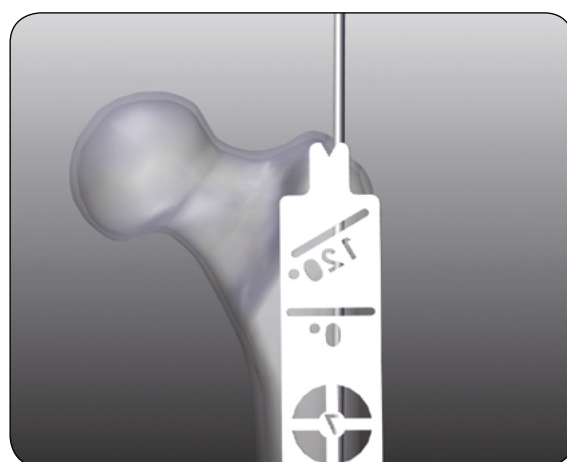

Fig. 9 Proximal screw positioning
PRECAUTION: Depending on the position of the nail and bone anatomy, it is recommended to direct the tip of the proximal locking screw towards the lesser trochanter, avoiding as much as possible damaging the physis (Fig. 9).
- **Option A:** Using Image Intensifier, align the sizing guide over the femoral axis from the entry point to the distal femur (**Fig. 9**). Under Image Intensifier read the optimal nail length directly on the sizing guide, selecting the measurement at the desired insertion depth (**Fig. 11**).